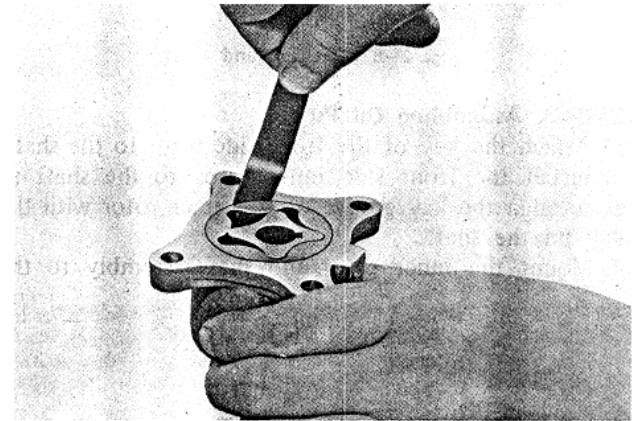

Fig. 2-4 Checking outer rotor clearance
2. Check the clearance between the outer rotor and pump body with a feeler gauge as shown in Fig. 2-4. The specified clearance is 0.20 ~ 0.25 mm (0.008 ~ 0.01 in). If the clearance is more than 0.30 mm